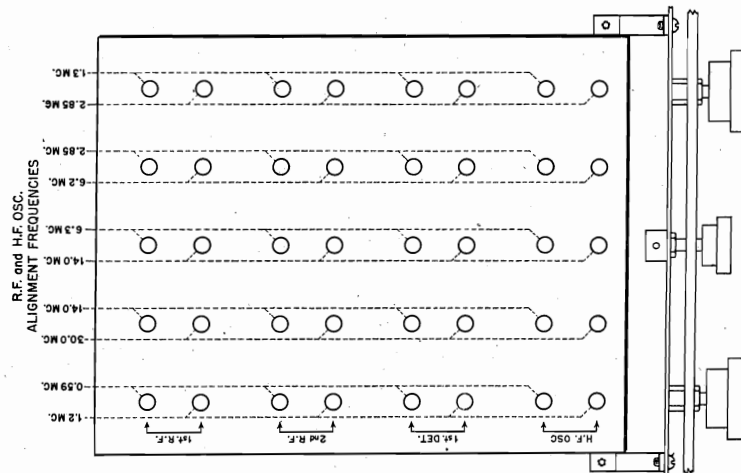

Fig. 13—R.F. and H.F. osc. alignment frequencies and location of adjustments.
a. **Signal Generator:** This should be an accurately calibrated instrument producing amplitude-modulated radio-frequency signals. In addition to 455 kc. (the IF), the frequency range required of the signal generator depends on the tuning range of the receiver to be aligned. The RF alignment frequencies required for the Series 400-X Super-Pro are shown in Fig. 13. The second harmonic can generally be used when the fundamental frequency is not available. For example, a signal generator covering all frequencies from 455 kc to 15 mc could be used to check the highest frequency band by using the second harmonic of 15 mc to provide the 30 mc called for in Fig. 13. The signal generator should have an output of approximately 100 microvolts and an output impedance of approximately 100 ohms for best results when aligning the RF and HF Oscillator circuits. For IF alignment these values are not critical. The frequency calibration of the signal generator is extremely important if the Receiver dial calibration is to be correct.
(1) Accurate calibration of the signal generator is not required to check these adjustments. Modulation of the signal generator, while convenient, is not strictly necessary. Input to antenna terminals should be through 100 ohms (approximate) including output resistance of signal generator. If signal generator is modulated, Receiver controls should be set as for IF alignment; if unmodulated, set BEAT OSCILLATOR to 2 (either side) and SIGNAL-MOD-CW to CW. Adjust SENSITIVITY for half-scale reading on output meter when signals are exactly in tune.
(2) Starting with 2.85-6.3 mc band, set main dial at 6.3 mc (BAND SPREAD at 100) and adjust frequency of signal generator for peak deflection of output meter. Then check setting of trimmer marked 1st DET 6.3 mc (Fig. 13). Repeat this procedure on trimmers designated as 2nd RF and 1st RF in same row. If readjustments on one of these settings greatly increases output meter reading, alter SENSITIVITY slightly to reduce reading to half-scale. After each adjustment check tuning of Receiver to make sure test signal is still accurately tuned. BAND SPREAD may be used as a vernier for this purpose.
CAUTION: THIS TUNING CHECK IS EXTREMELY IMPORTANT AT HIGH END OF 6.3-14.0 MC AND 13.4-30.0 MC BANDS WHERE THERE IS SOME SLIGHT INTERACTION BETWEEN 1st DET AND HF OSC CIRCUITS. After checking the three trimmers at high end of this band, turn main dial to 2.85 mc and retune signal generator to suit. Then check the three inductance adjuster settings marked 2.85 mc (Fig. 13) in the same row. Since adjustments at one end of a band also affect the other end of the band (as described under HF OSC alignment), repeat above procedure until no further improvement can be secured. The number of repetitions necessary depends on how much mistuning existed initially. Other bands may be checked in the same manner.
(1) To correct dial calibration, refer to alignment chart (Fig. 13) for location of HF oscillator adjustments as well as signal frequencies at which settings should be made. The output of the signal generator should be unmodulated and SIGNAL-MOD-CW switch on Receiver turned to CW. Set BEAT OSCILLATOR at 0, AUDIO GAIN at 10, AVC-MANUAL on MANUAL, BAND WIDTH at 16. Disconnect output meter and use earphones or loudspeaker to make necessary adjustments by "zero beat" method. Connect signal generator to antenna terminals for this test.
(2) If the 2.85-6.3 mc band is to be corrected, tune signal generator accurately to 6.3 mc. Tune in signal generator signal at 6.3 mc end of Receiver dial to zero beat. Notice approximate dial error. Turn main dial slightly toward 6.3 mc calibration line until beat note rises to a high pitch. Do not turn dial far enough to raise beat so high it cannot be heard. With alignment screwdriver adjust trimmer capacitor marked HF OSC 6.3 mc (Fig. 13) until beat is again zero. Turn main dial still farther toward 6.3 mc line and make a further adjustment of trimmer capacitor to return to zero beat. Repeat this process as often as necessary to bring dial to exactly 6.3 mc. (The main dial could be set at once on exactly 6.3 mc and trimmer turned enough at one time to produce zero beat, but the step-by-step method is recommended.) Now retune signal generator to exactly 2.85 mc and tune in signal-generator signal at low-frequency end of main dial and correct the calibration step-by-step as before, using inductance trimming adjuster HF OSC 2.85 mc (Fig. 13). When 6.3 mc signal from signal generator is again tuned in at other end of dial, it will be found that inductance adjustment at 2.85 mc has changed correction previously made at 6.3 mc. This is normal. Go back and forth several times from 2.85 to 6.3 mc in order to bring both ends of dial scale into exact agreement with the signal frequency. CAUTION: DURING THIS ADJUSTMENT BE VERY CAREFUL TO ADJUST THE SENSITIVITY CONTROL TO AVOID OVERLOADING.